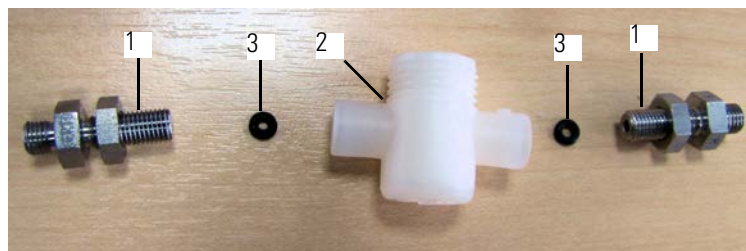

Figure 9-25. Unscrewing SERTO fitting on each side of T-piece
- c. Unscrew the SERTO™ fitting on each of the two sides of the T-piece. Use a 10 mm open-ended spanner. See Figure 9-25.